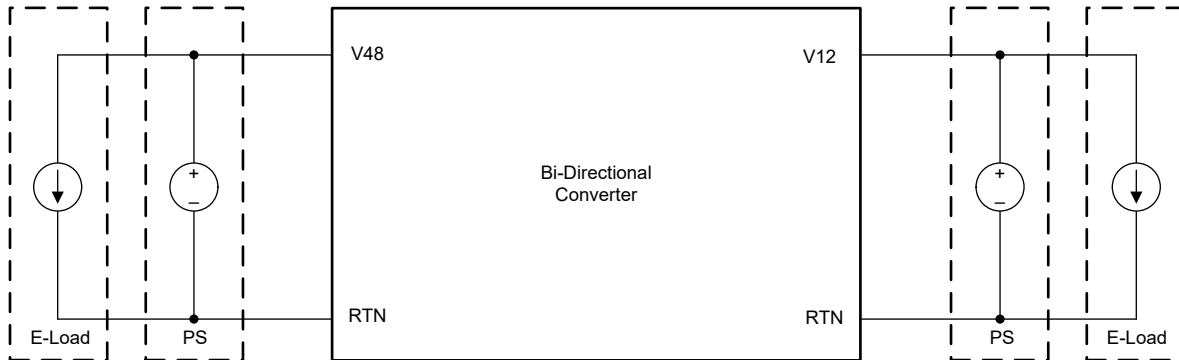

Figure 7-32. Emulated Dual Battery System With Bench Power Supplies and E-Loads
The LM5171-based converter is designed to operate with two differential voltage rails like the 48V and 12V dual battery system, or a storage system having a battery on one end and the Super-Cap on the other end. When operating with bench power supplies, each supply must be capable of sourcing and sinking the maximum operating current. This may require to parallel an Electronic load (E-Load) with the bench power supply (PS) to emulate the batteries, as shown in Figure 7-32.